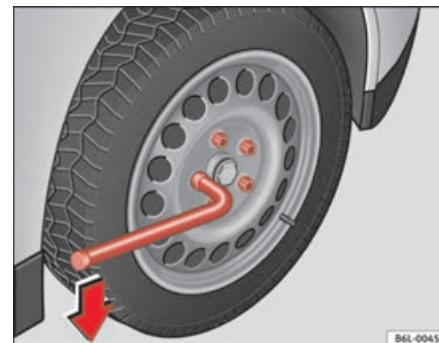

Fig. 142 Changing the wheel: loosen the wheel bolts
- Grasp the box spanner by the end turn it about one full turn to the left **⇒ fig. 142**.